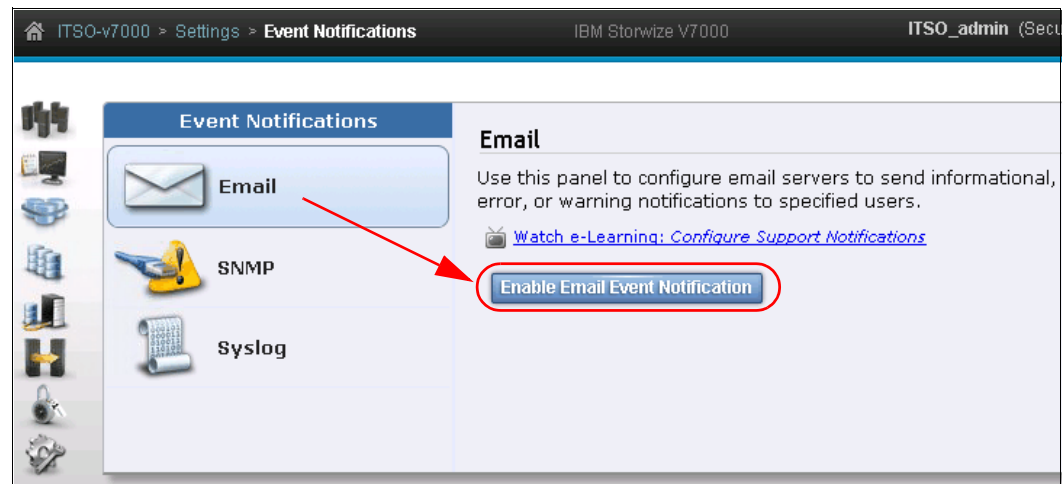

Figure 13-33 Configuration of email notifications
2. Select **Email** and then click **Enable Email Event Notification** (Figure 13-33). You can also access the IBM eLearning movie for more technical details.